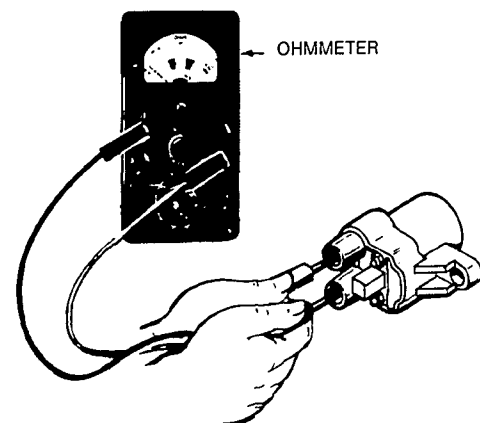

FIGURE 3. COIL TEST
3. Change resistance setting on ohmmeter. Place ohmmeter leads inside of spark plug cable holes (Figure 3). Secondary resistance should read between 14,500-19,800 ohms.